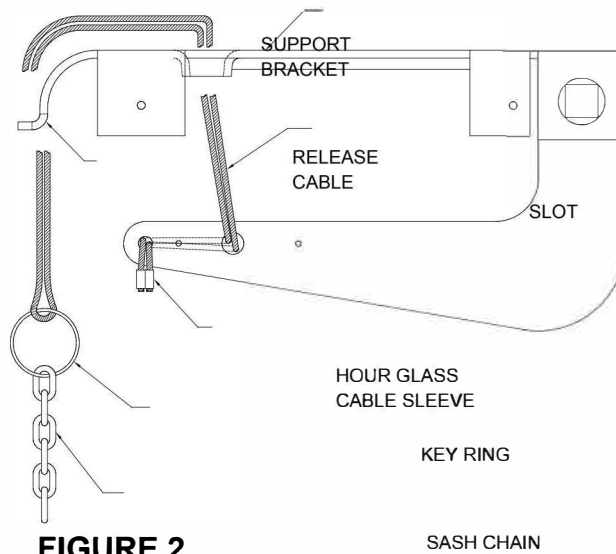

FIGURE 2
The default configuration for the disconnect chain assembly is shown in Figure 1. This configuration allows the chain to hang freely when the operator is mounted on right side only. To insure smooth operation of the disconnect chain assembly when mounted motor side down, reconfigure as described below and as shown in figures 2 and 3.
2. Thread the release cable through the slot on the outermost edge of the support bracket, as shown in Figure 2.